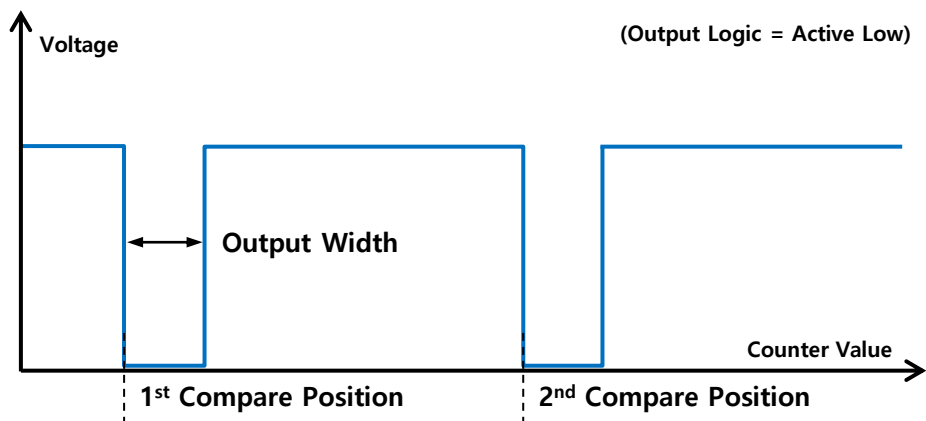

Fig. 8-12. Sequential comparison mode's signal output
Sets the comparison starting reference value to output signals as in Fig. 8-12. When comparison output operates from some comparison reference value, the value of the Comparison Reference Value (3027h) object refreshes to the next comparison reference value, and when comparison output operates to the final reference value, comparison output restarts from the first reference value. Up to 60 comparison reference value arrays are provided per channel.
(2) Output width
Sets the time to output signals (= width of output signals) as in Fig. 8-12. For details, see (3) Output width in 8.12.3 Periodic Comparison Mode.
(3) Comparison reference value array size